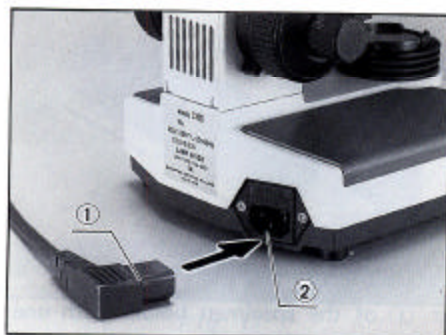

Fig. 11
- 1) Plug the power cord ① into the receptacle ② on the microscope base. (Fig. 11)